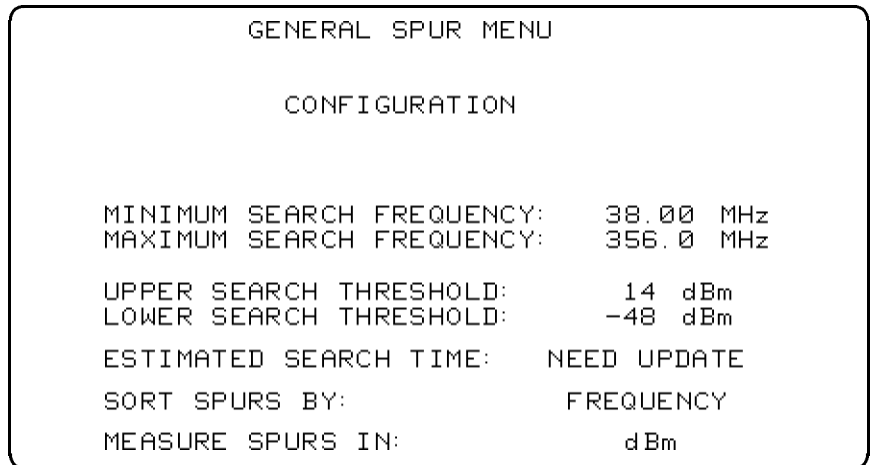

Figure 2-11. Spurious Menu Configuration
5. Press **GEN SPUR MENU** **CONFIG SPURS**. The display now shows the configuration settings, and should look like Figure 2-11. If these settings are not appropriate, press **CONFIG SPURS** and change them to suitable values. When finished, press **CONFIG DONE**.